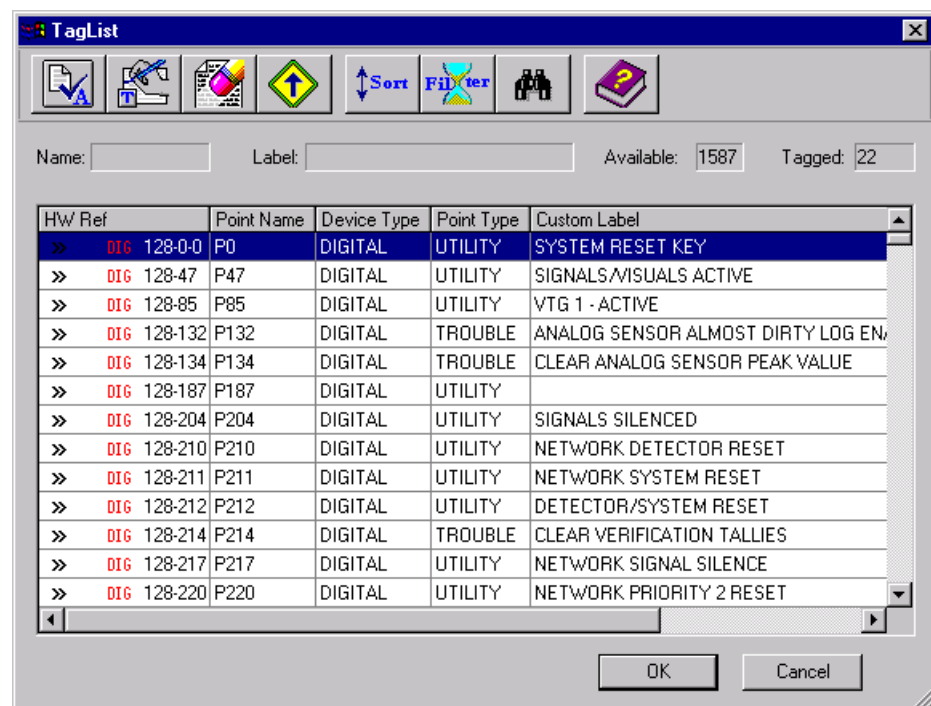

Figure 14-2. Public Points Tag List
1. Right click on the Public Points folder and select the **Edit Public** choice. The tag list shown in Figure 14-2.